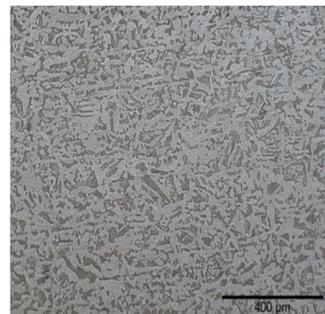

Figure 2: Micrograph of Plate A-1. 100 X.
- In **Figures 2, 3, 4, and 5**, the respective micrographs of the plate and rivet taken with an optical microscope are shown.